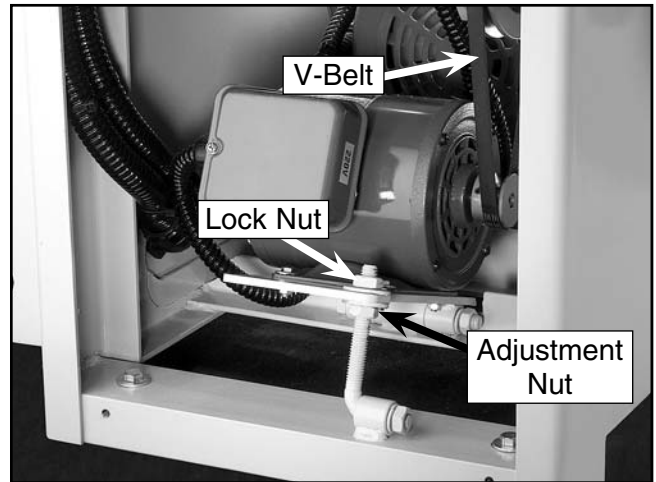

Figure 37. Table elevation V-belt.
- Loosen the lock nut (**Figures 37 & 38**).